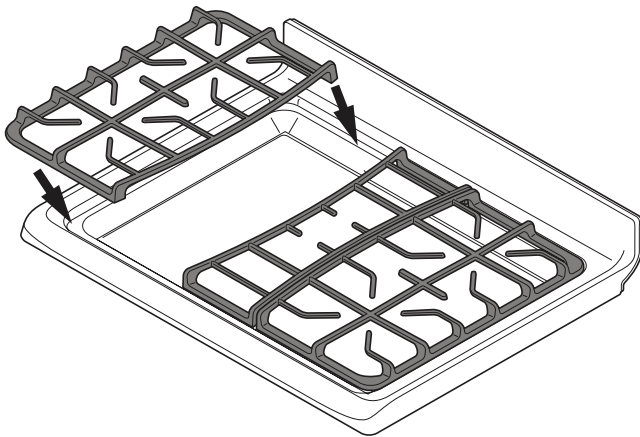

Figure 4: Place burner grates carefully after burners are properly set in place.
- Make sure the burner grates are properly placed on the cooktop before using the surface burners (Figure 4). The grates are designed to rest inside the recess on the cooktop.